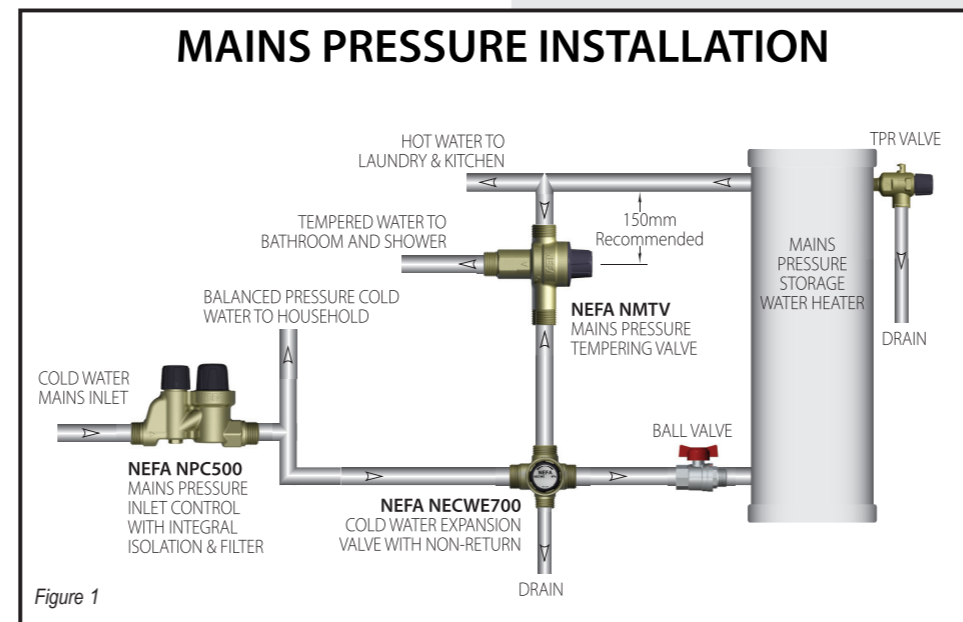

Figure 1
- Do not install an NMTV directly onto a hot water cylinder. It is recommended that the valve be installed as close to the hot water source as possible. For optimum performance install with a 150mm thermosyphon between the cylinder outlet and hot inlet. (Ref Figure 1).